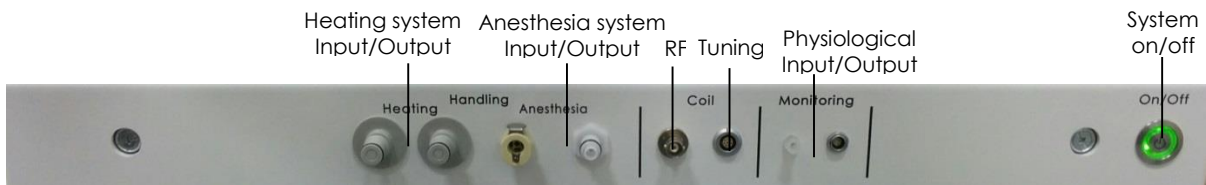

Figure 7: Manifold Panel controls
- 16 Connect all animal handling system connectors to the Manifold Panel on the magnet's front side. That includes two heated water connectors, two coil connectors, two anesthesia connectors and, if used, two physiological monitoring connectors. Refer to Figure 7: Manifold Panel controls. Imaging can now proceed according to the application protocol.